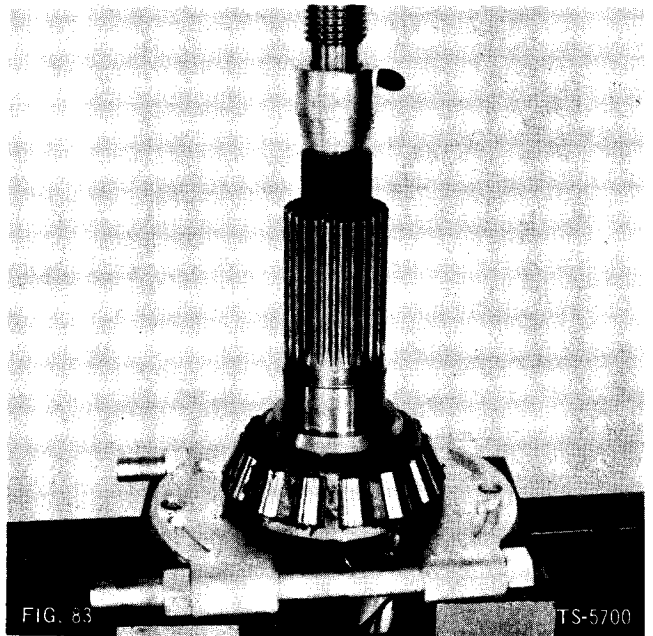

FIG. 83
2. Press center pinion bearing cone from pinion assembly (Fig. 83).